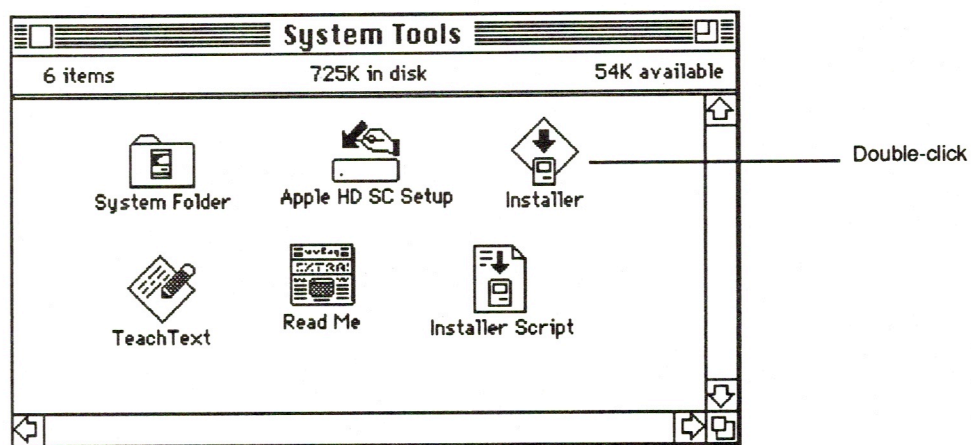

Figure 41. Launching the Installer
3. Launch the Installer by double-clicking its icon. See Figure 41.